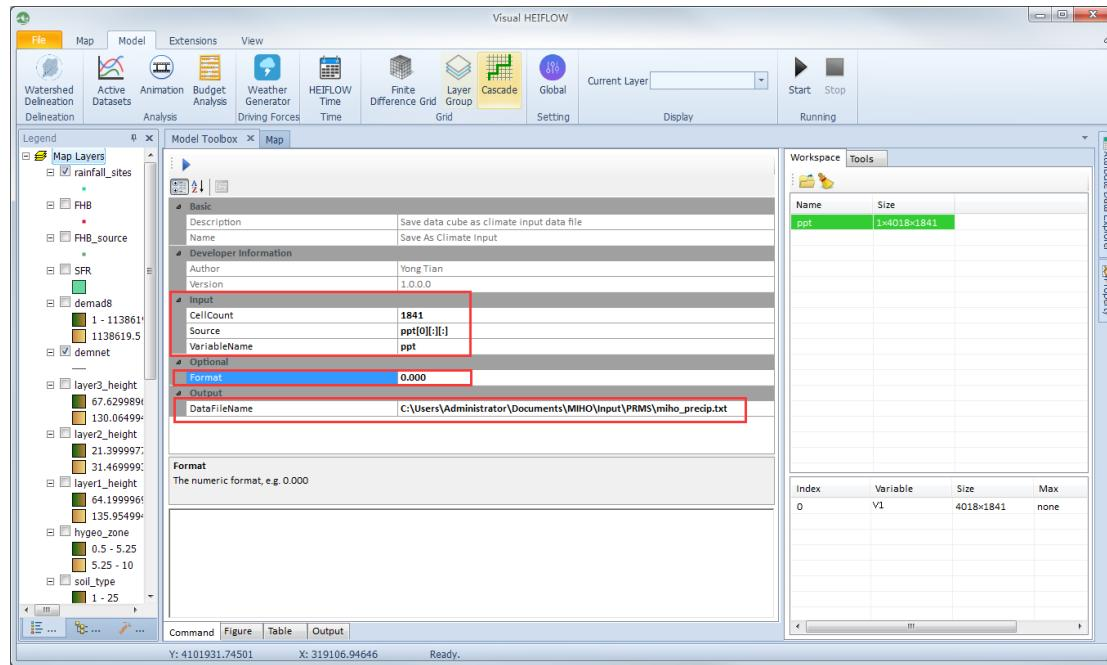

Figure 6-4. Input and output of the Save As Climate Input tool.
- 5) In the Model Toolbox View, double click the tool Driving Forces -> Save As Climate Input, set its input and output as shown in Figure 6-4